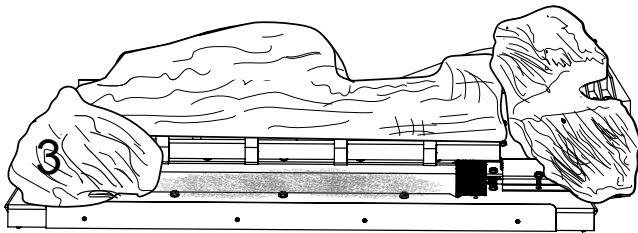

Figure 5.13 - Log #3 Placement
4. Hold log #3 in your left hand with the flat surface down. Place log #3 by matching the two notches on the bottom of the log with the grate bar on the left and the pointed end of log #1. See Figure 5.13.